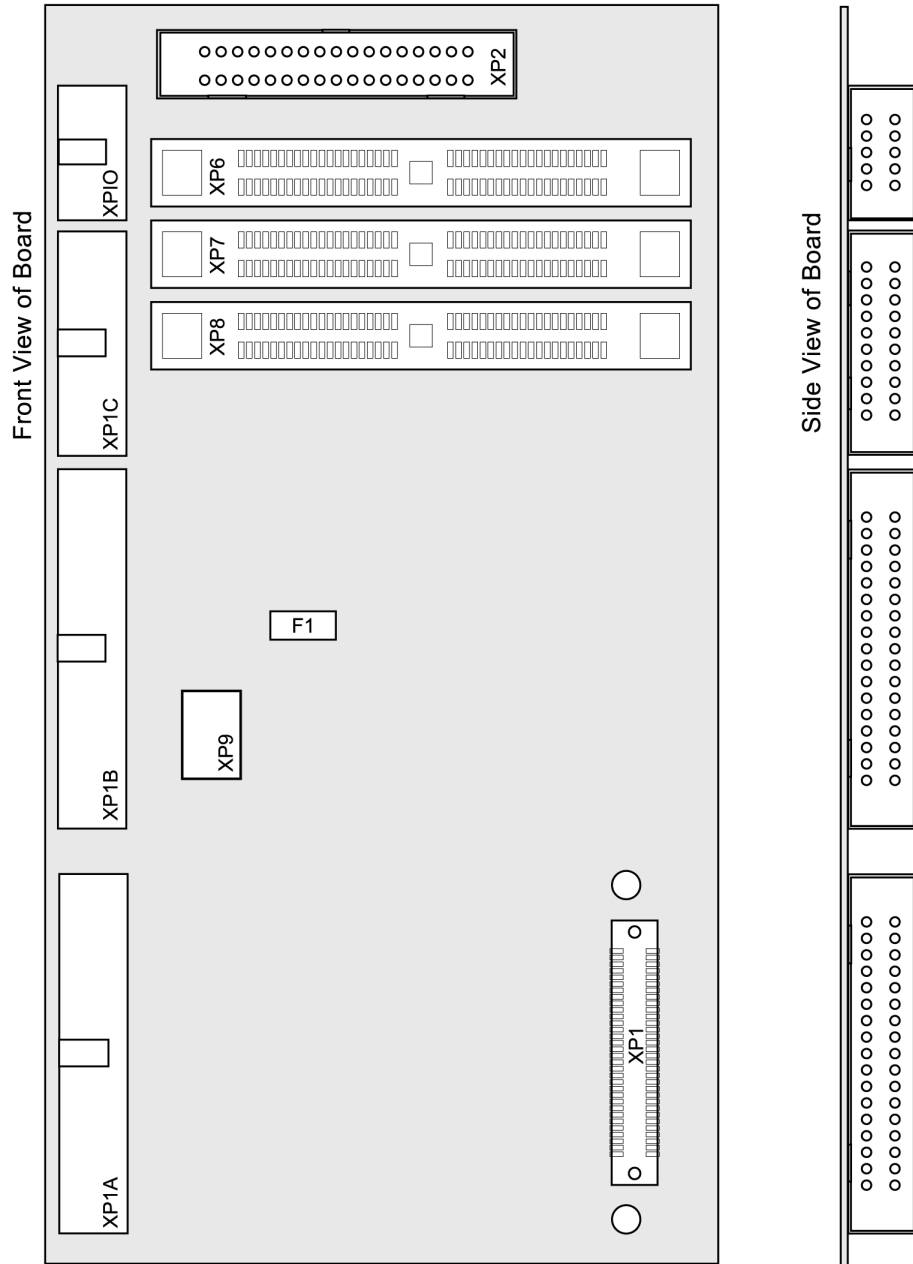

Figure 3 EXPAXIS (9-16) Axis Expansion Board for the ACR1505
The EXPAXIS module accepts any feedback device that supplies either a +5 VDC or +12 VDC differential signal. The most common type of device is a differential encoder. For common encoder setups, see Table 7. For connector locations, see Figure 3 on page 11.
There are two 34 pin headers and one 20 pin header provided on the EXPAXIS module for encoder feedback. The two 34 pin header provide up to eight (8) axes of encoder feedback (Encoders 10 thru 17). The 20 pin header provides 2 axes of encoder feedback (Encoder 18 and 19). For connector locations, see Figure 3 on page 11.
The XP9 connector provides fused, +5 VDC power for open collector stepper outputs. or connector locations, see Figure 3 on page 11.
The XP10 connector provides +5 VDC TTL I/O for `INTCAP` and other special functions. For connector locations, see Figure 3 on page 11.